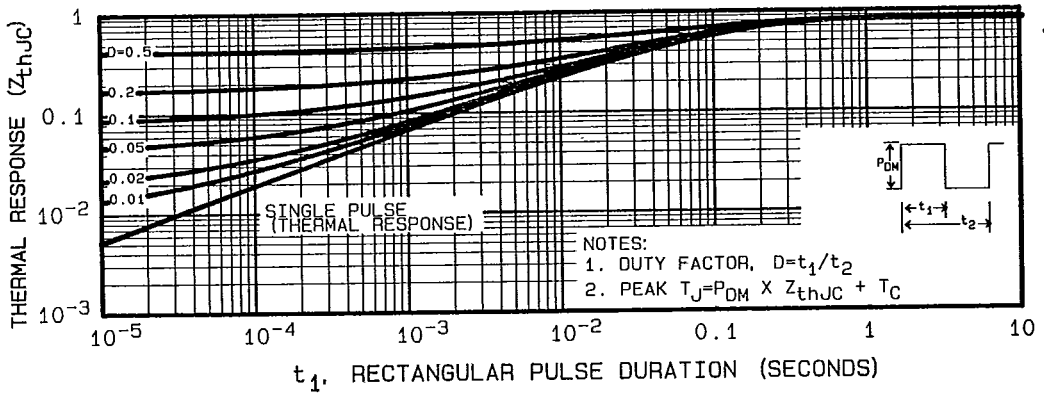

Fig. 5 – Maximum Effective Transient Thermal Impedance, Junction-to-Case Vs. Pulse Duration
- ① $T_J = 25^\circ\text{C}$ to 150°C
- ② Repetitive Rating: Pulse width limited by max. junction temperature. See Transient Thermal Impedance Curve (Fig. 5).
- ③ @ $V_{DD} = 25\text{V}, T_J = 25^\circ\text{C}$